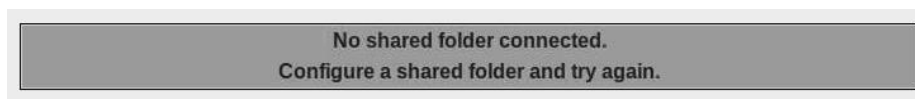

Fig. 75 – Settings / Backup: shared folder not connected
- The bottom frame allows to perform the backup/restore from the previously configured shared folder. The frame shows the connection status of the shared folder and its network path, if connected. If the shared folder is not configured correctly, the message at Fig. 75 is displayed and the bottom frame is disabled. The **Start Backup** button in this frame allows to start a backup and store it in the remote shared folder.